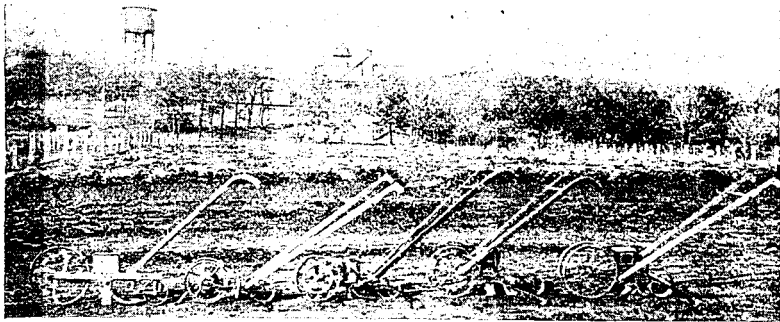

FIG. 4. 1—A. H. Matthews' Drill. 2—Planet Jr. Combined Drill. 3—Matthews' Combined Drill. 4—New Model Drill. 5—Planet Jr. Hill Dropping Garden Drill.
*The A. H. Matthews Seed Drill* has been used for many years at the University Farm and by many market gardeners. It has given good satisfaction as a safe and reliable seed sower. It is shown at No. 1 in Fig. 4.
sure to keep the seed moving through the feed-hole in a regular stream. There is one feed-hole, the size of which is quickly changed by a simple and convenient device that permits of its being increased or diminished in size at pleasure. The coverer and the press-wheel are well adapted for covering seeds evenly and pressing the surface soil over them. The marker attachment for tracing lines for succeeding rows is well made and easily handled. This is an excellent garden drill, in every respect; list price, \$9. This drill is shown at No. 4 in Fig. 4.